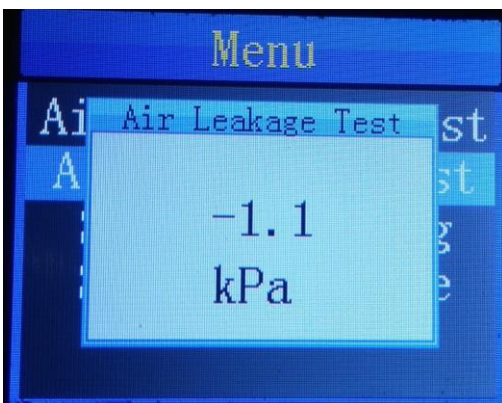

Figure 2
2. Enter into the test page (Figure 2), press the green button to start, then the Vacuum Tester will continuously fill the luminaire with air.